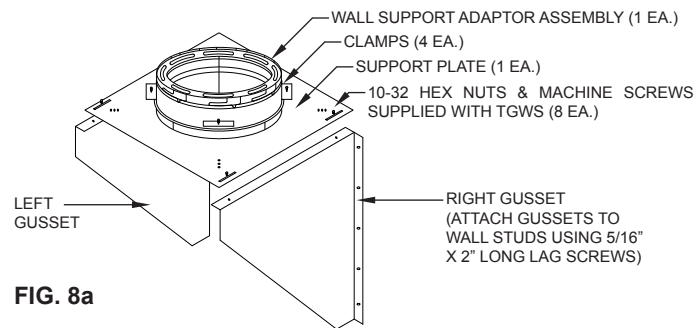

FIG. 8a
6. Attach wall support plate to wall support adaptor using 4 clamps provided. Do not tighten. (See FIG. 8a).